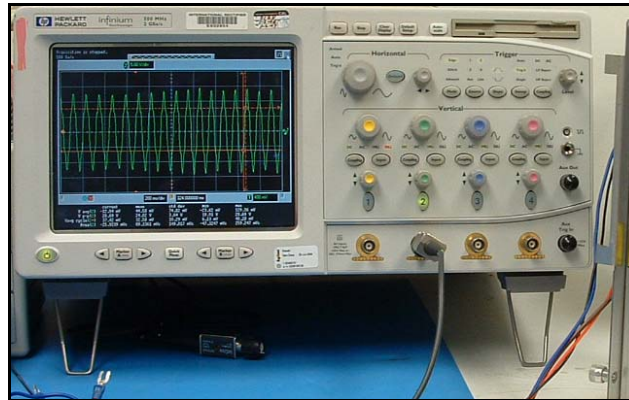

Figure 4—Measuring the back EMF.
4. Motor Back EMF Constant ( $K_e$ )—Again connect two phases of the motor to an oscilloscope. Turn the motor at a constant rate and record the waveform as shown in Figure 4. (When the